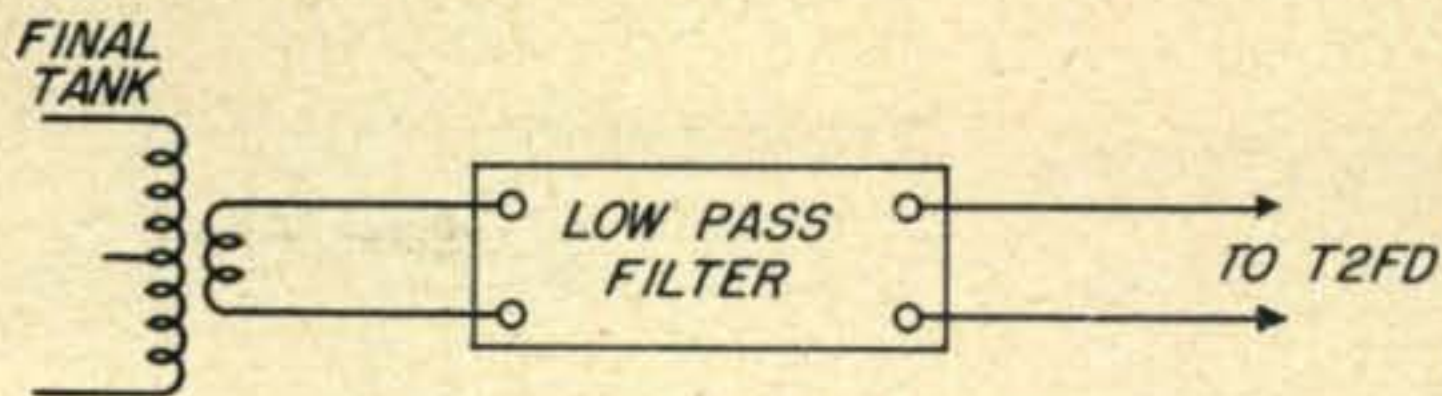

Fig. 1. The T2FD may be coupled to the final with a simple link. The use of a low-pass filter to prevent TVI is recommended.
**Answer:** If a non-inductive resistor is used, a simple link (Fig. 1) is all that is required. Remember that you must couple at your line impedance, otherwise your antenna will not load properly. For a 600-ohm line, a 3-turn link should be used for 20 meters and a 6-turn link will be a good match at 40 and 80. The B & W plug-in links are perfect in this application.